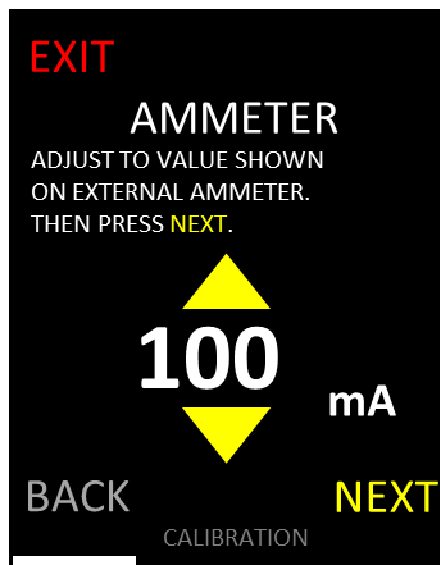

Figure 12. 50Ω Current
- 7.1 Use arrows on the Touchscreen to match the value shown on the Touchscreen with the reading on the digital ammeter (Figure 12). Select NEXT to continue.